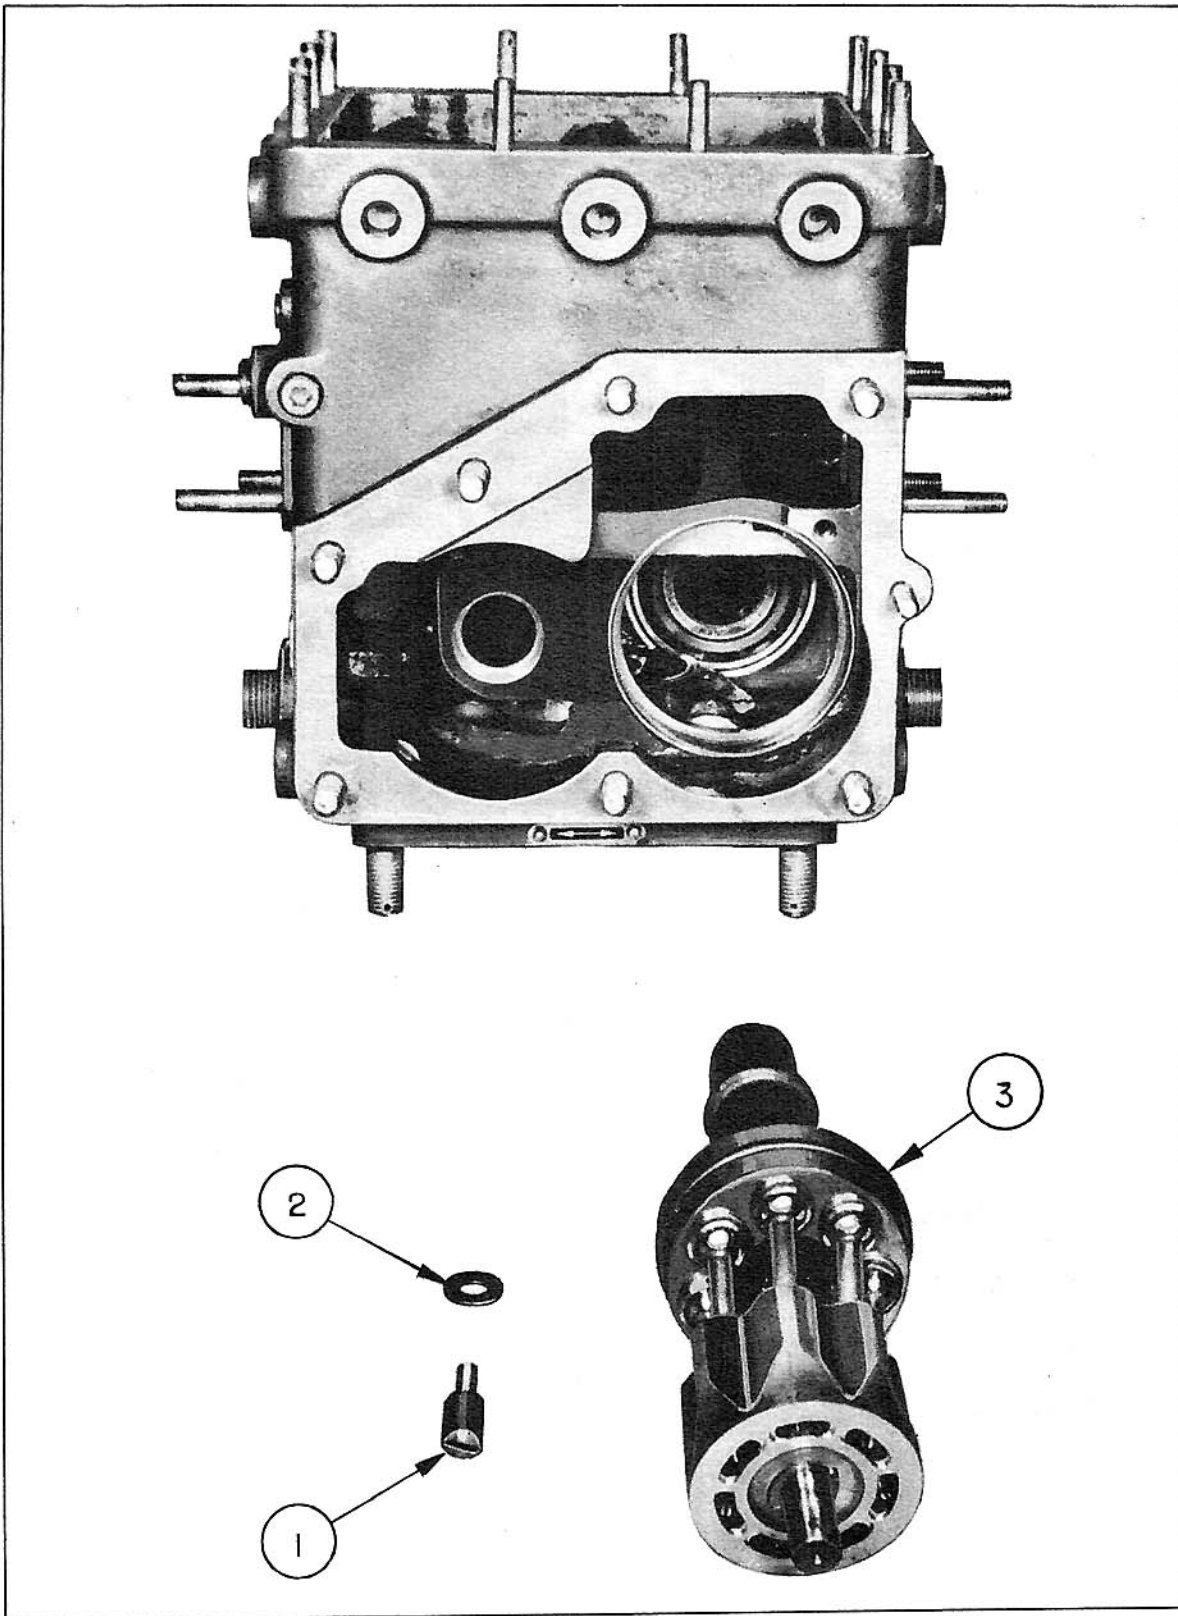

FIGURE 31
11. "B" End Rotating Assembly (Fig. 31)
12. "B" End Rotating Assembly (See Figure 31.) - a. Remove screw (1) and retaining washer (2) which hold the "B" end assembly (3) in the housing. Drive the assembly out carefully using the same tools and methods described for the "A" end.
2. "B" End Rotating Assembly (Fig. 31)
3. "B" End Rotating Assembly (See Figure 31.) - a. Slip a "bullet nose" over the end of the "B" end shaft (to prevent damage to the bearing oil seal). Place the rotating assembly (3) into position and force it into the bearing by means of special Vickers tool T-19151, driving lightly with a small hammer. Lock the "B" end in place with washer (2) and screw (1). Start lockwire which will finally be fastened to the similar "A" end locking screw.